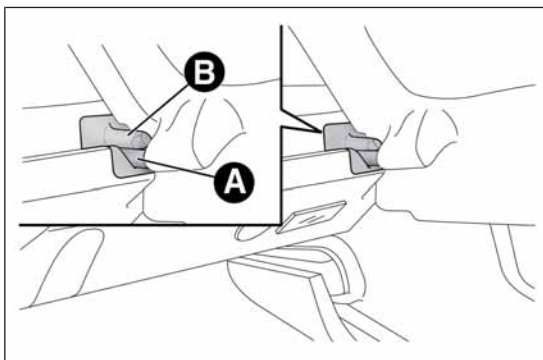

fig. 65
- ☐ free the pins A fig. 65 on the outside of the shelf from the housings B in the side mountings, then remove the parcel shelf;